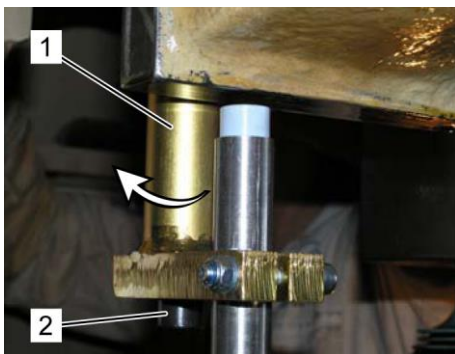

Fig. 35: Sensor under crosshead
6. If the crosshead is not fully covering the sensor tip loosen the bracket fixing bolt (Fig. 35/2) and then turn the bracket (Fig. 35/1), until the crosshead is fully covering the sensor tip (Fig. 35/arrow).
7. Then tighten the bracket fixing bolt (Fig. 35/2).